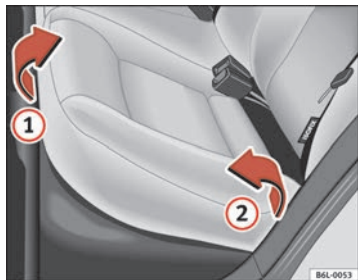
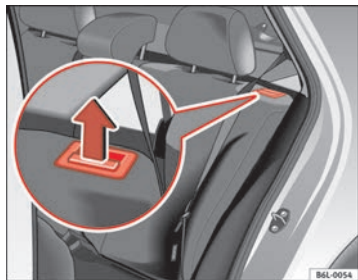

Fig. 72 Folding up the rear seat cushion
Fig. 73 Button for unlocking the rear backrest
- Pull the front edge of the seat cushion ⇒ fig. 72 ① upwards in the direction of the arrow.
- Lift the cushion ② forwards in the direction of the arrow.
- Pull the release button ⇒ fig. 73 in the direction of the arrow and fold the backrest forwards